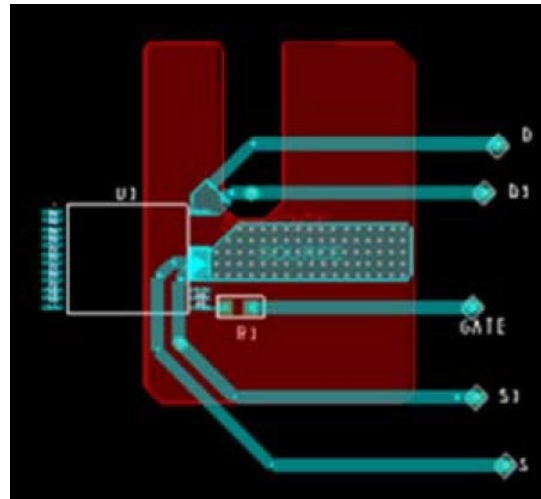

Figure 25. Thermal Resistance Test Conditions for PowiGaN Devices (INN3678C, INN3679C and INN3670C.)
Testing performed on custom thermal test PCB as shown in Figure 25. The test board consists of 2 layers of 2 oz. Cu with the InSOP package mounted to the top surface and connected to a bottom layer Cu heat sinking area of 550 mm².
4. Please see Figure 25.